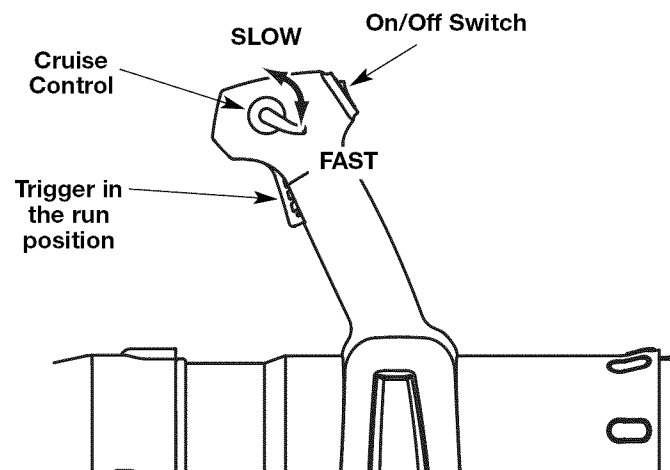

Fig. 12
- NOTE:** There is no need to turn the unit on. The On/Off Control is in the **ON (I)** position at all times (Fig. 12).
5. Press down the cruise control to lock the trigger into the fast position (Fig. 12).
1. Once the engine has started and warmed up, squeeze the trigger to accelerate the unit as needed (Fig. 12).
2. For longer periods of operation and to eliminate possible finger fatigue, move the cruise control toward the FAST position to incrementally increase or maintain the unit's engine speed (Fig. 12). When the cruise control is pressed, the trigger will recede into the handle.
3. To decrease engine speed, move the cruise control to the SLOW position and the trigger will return to idle position (Fig. 12).
2. Press and hold the On/Off Control switch in the **OFF (O)** position until the engine comes to a complete stop (Fig. 12).
- Use the cruise control (Fig. 12, A) to keep the trigger depressed while operating to make continuous operation easier.